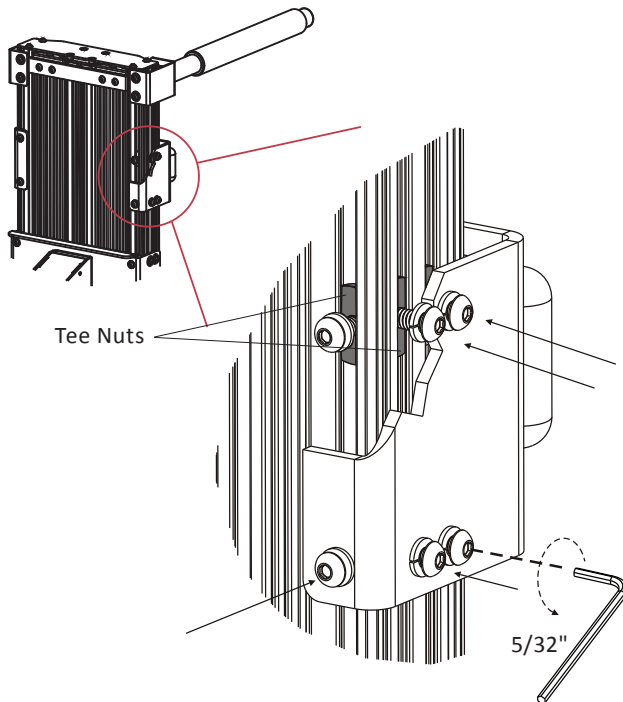

Figure 5-4
1. Loosen the 12x screws on the sides and back of the hold-down arm bracket with a $\frac{5}{32}$ " hex key to slide the bracket up or down. Do not remove the screws. Only loosen the screws or the tee nuts will drop out of position. *See Figure 5-4.*